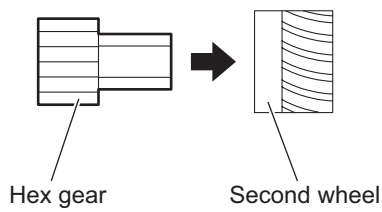

Fig.21
- (9) Pull the second wheel out of the hex gear. (See Fig.21.)